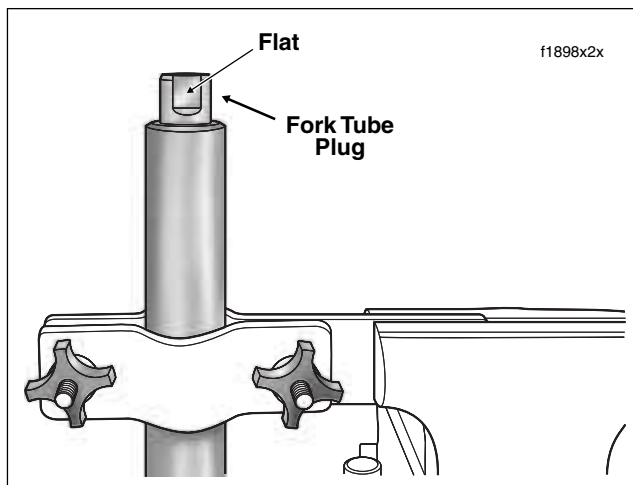

Figure 2-75. Install Fork Tube Into Fork Holder
- b. With the fork cap bolt topside, clamp fork tube between rubber pads on inboard side of tool. Tighten knobs until fork tube is securely held. See Figure 2-75.